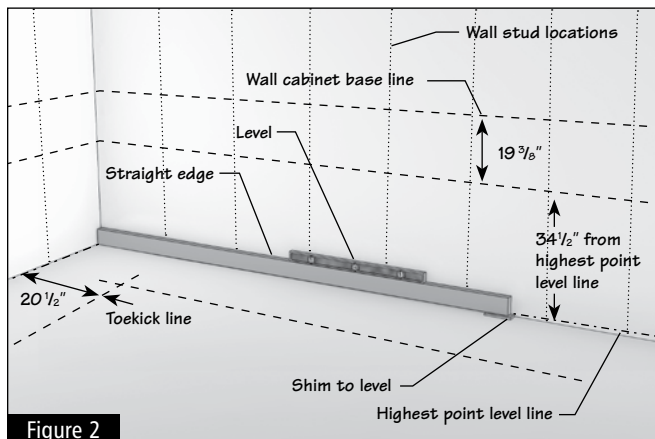

Figure 2
1.2 Measure up from the high point $34\frac{1}{2}$ " and draw a level line across the wall to establish the top of the base cabinets. If installing cabinets before your flooring, be sure to allow for the thickness of the material you plan to use. (Figure 2)
1.3 Then measure up from there another $19\frac{3}{8}$ ". This will be the baseline for the wall cabinets. (When you are finished, the wall cabinets will sit at $53\frac{7}{8}$ " above the high spot in the floor). (Figure 2) Please refer to your design elevations to verify dimensions specific to your layout.